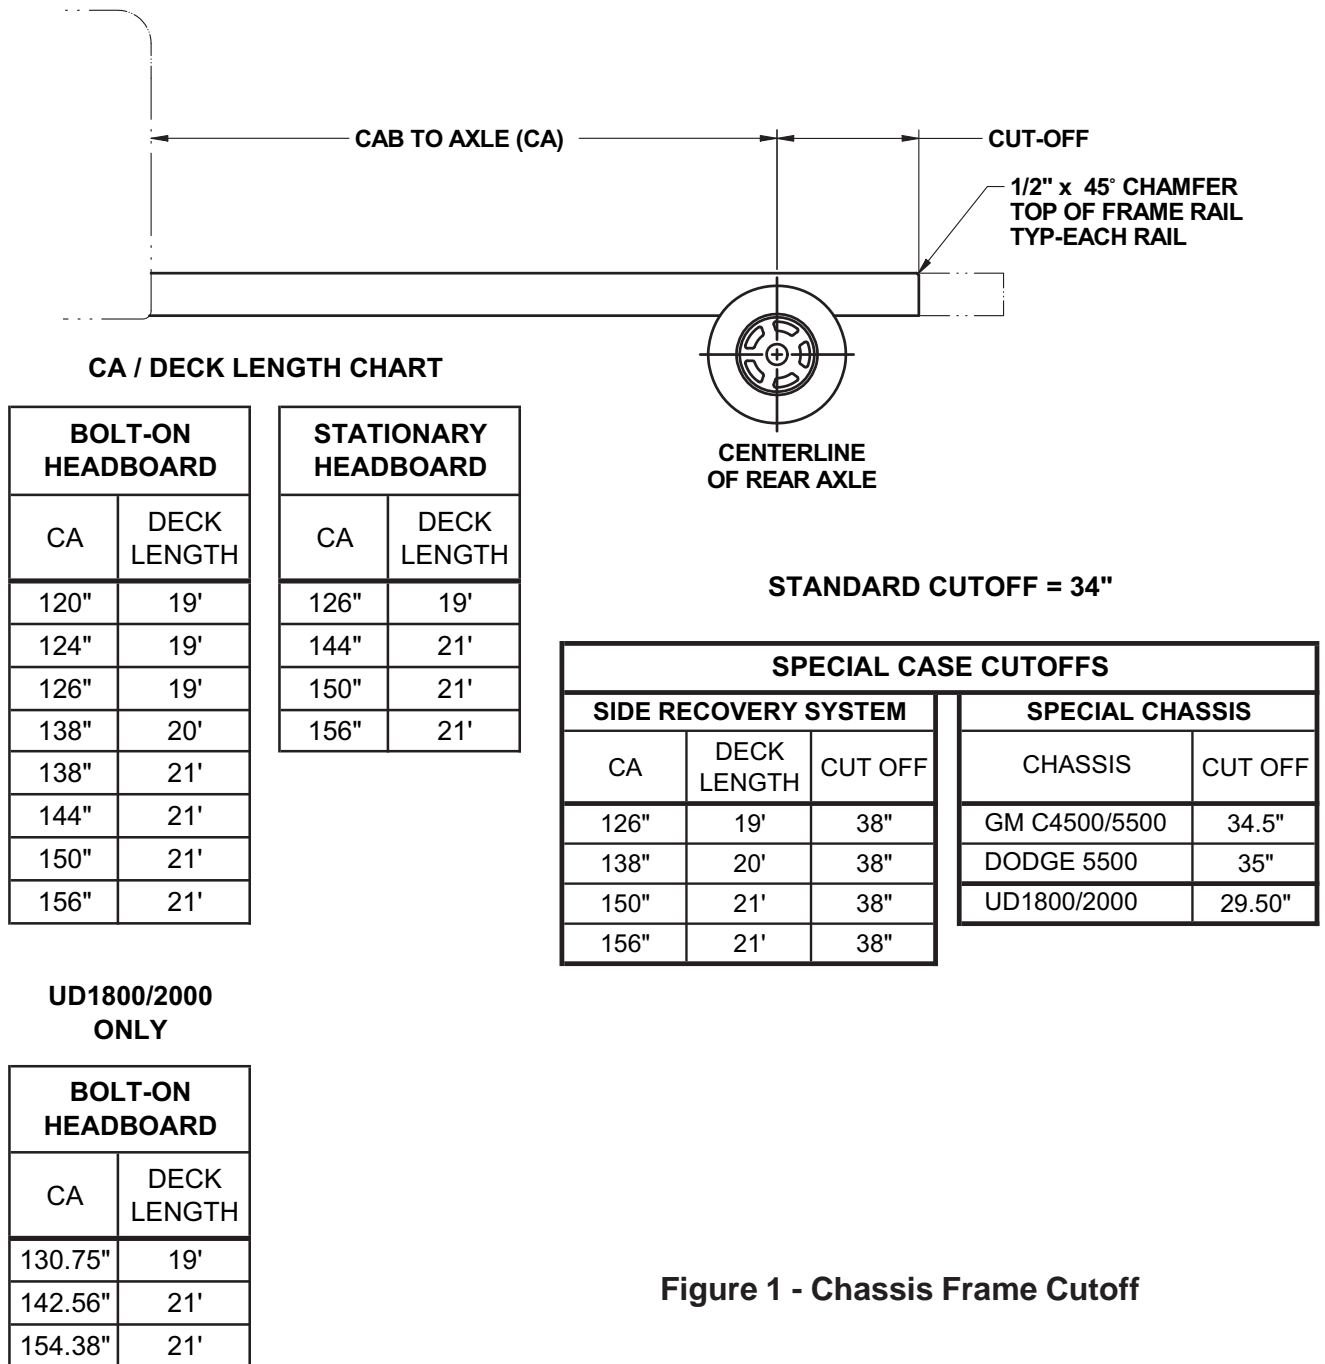

Figure 1 - Chassis Frame Cutoff
3. Cut the chassis frame behind the center line of the rear axle as shown using the dimension from the chart in Figure 1. Discard the extra chassis frame.